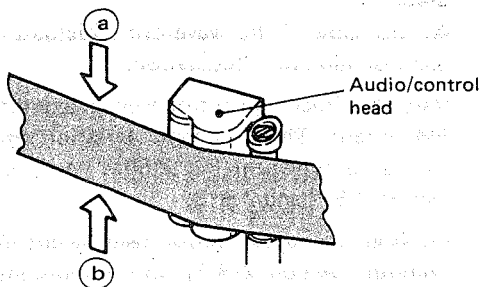

Fig. 2-51 Audio head height check
3. Check that the audio CH-1 (LEFT) output level increase does not exceed 0.5 dB as the tape is lightly pressed down point (a) as shown in Fig. 2-51.